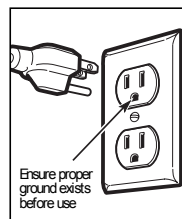

Figure 2
- The power cord of this appliance is equipped with a three-prong (grounding) plug which mates with a standard three-prong (grounding) wall receptacle to minimize the possibility of electric shock hazard from this appliance. *Figure 2*